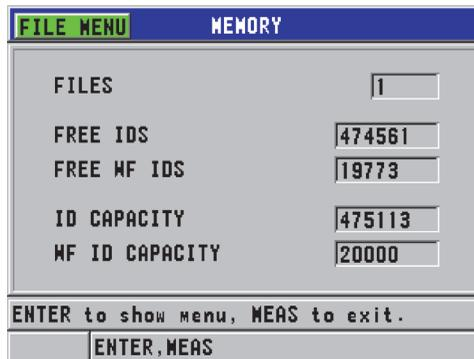

Figure 6-34 The MEMORY status screen
1. Press **[FILE]**, select **MEMORY**, and then press **[ENTER]** to display the **MEMORY** status screen (see Figure 6-34 on page 111). This screen indicates the number of files stored in the internal memory, along with its current capacity.